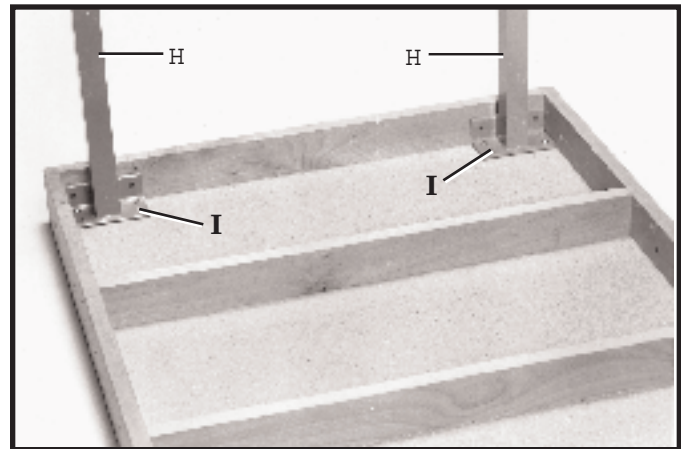

Fig. 10
8. Position the two legs (H) Fig. 10, at the two far corners of the inside of one end of the extension table, as shown, and mark the position of the eight holes to be drilled into the bottom of the table. **IMPORTANT:** If your saw and fence system will be used with a mobile base underneath the saw base and table legs, the position of the legs may have to be changed to fit onto the mobile base. Remove the two legs (H) and using a 1/16" drill bit, drill the eight holes 1/2" deep. Replace the two legs (H) and fasten to the bottom of the table using the eight 3/4" long wood screws (I) supplied.